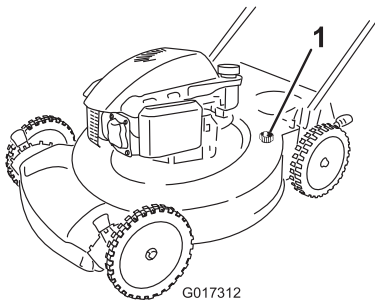

Figure 31
4. Attach a garden hose that is connected to a water supply to the washout port on the machine (Figure 31).